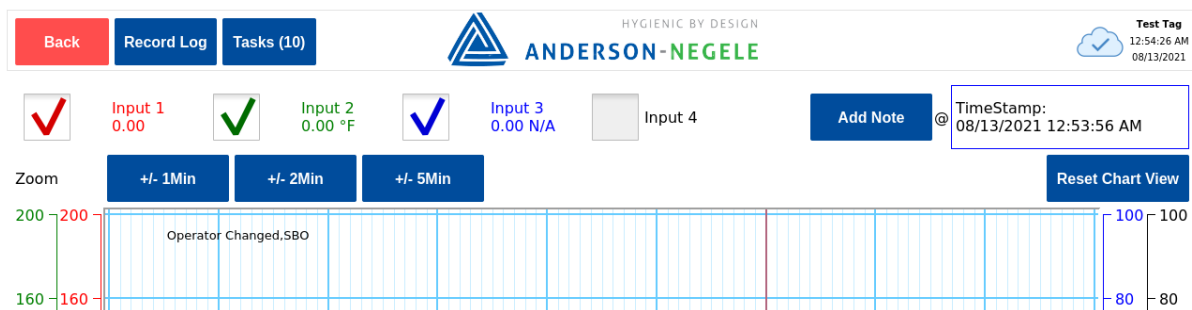

Figure 48: View Process data at Time Stamp
4. The user can also verify the input values at that point in time by viewing the area above the chart screen shown in Figure 48